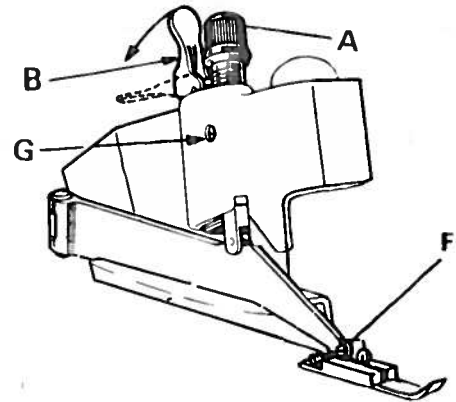

fig. 22
4. Press lever B right down (fig.22)
c) Positioning and adjusting presserfoot pressure (fig. 22)